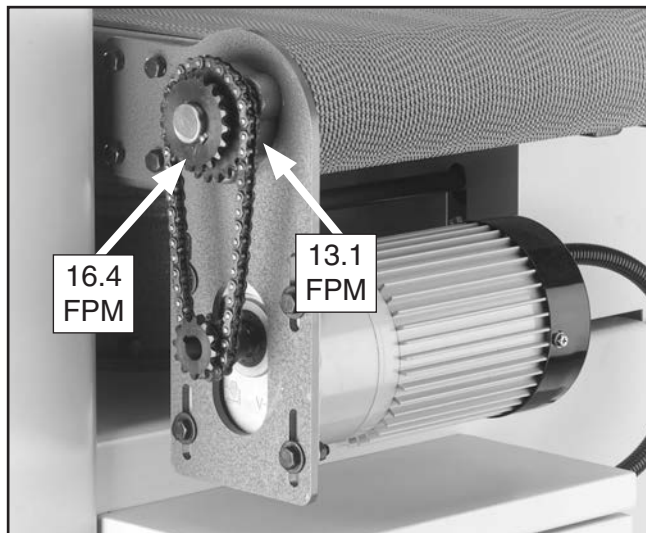

Figure 19. This is the feed belt motor. Place the chain on either of the sprockets and the feed belt will travel at the speed shown.
The feed belt motor (shown in **Figure 19** with the cover removed) controls the speed of the feed belt. The Model G9983 features speeds of 13.1 FPM and 16.4 FPM.
4. Determine which speed is best for your application and place the chain on either set of the sprockets shown in **Figure 19**.